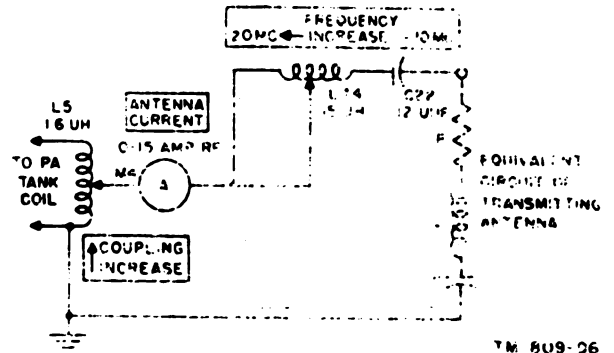

Figure 35. Antenna tuning unit with range switch in 10-20 M.C. position.
b. Figure 35 is a functional schematic diagram of the tuning unit with range switch SW9